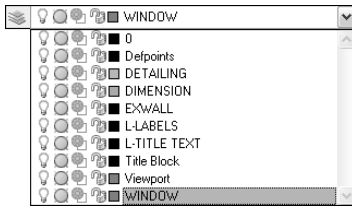

**Figure QS-1:** Choose the WINDOW layer from the list of layers.
5. From the Layer Control drop-down list on the Layers toolbar, as shown in Figure QS-1, click the down arrow and choose WINDOW. (Layers help you organize the objects in your drawing; I cover them in detail in Chapter 11.) Anything you draw will now be on the WINDOW layer.